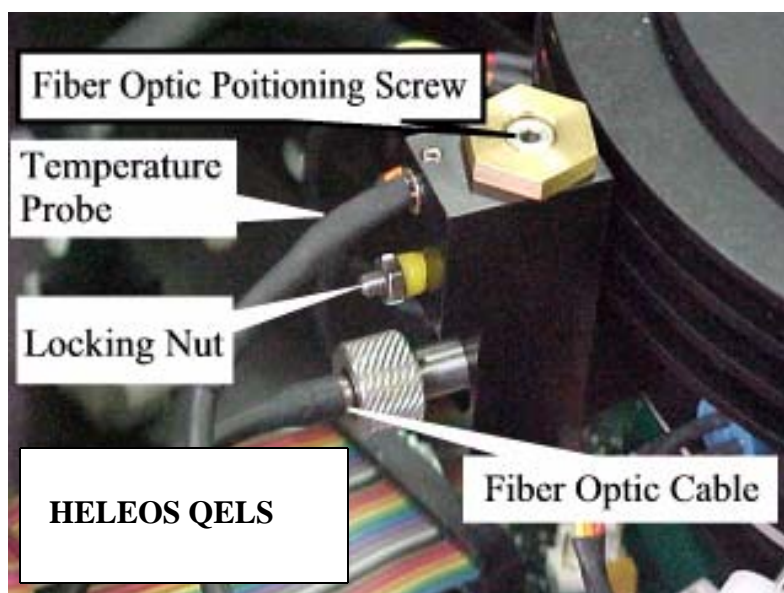

Figure A-3: Adjusting the fiber positioner for the HELEOS/QELS when connected to the DynaPro only.
5. Using a 2.0 mm hex driver, rotate the adjustment screw on the top of the QELS fiber mount (see figure Figure A-3). This drives the fiber up and down so that its field of view sweeps past the laser beam. The fiber is positioned correctly when the count rate is maximized. This is accomplished by rotating the fiber counter-clockwise until the fiber is at the top of the mount. Stop when the adjuster screw is about 3mm above the top of the mount. If turned too far, the adjuster screw will come out. If this happens, simply screw it back into place, taking care not to cross the threads.